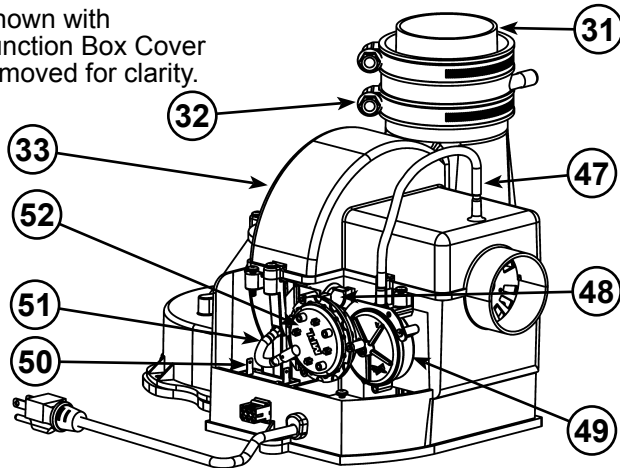

Figure 4
| 8 Cold-Water Inlet Nipple/Diptube | 25 *Gas Supply* | 47 Air Tubing (Intake) (see Figure 4) |
| 9 **Combo Heating System Supply Outlet (Optional) | 26 Anode (under cap) | 48 Blower High Limit Switch (see Figure 4) |
| 10 T&P Valve | 27 Baffle Assembly | 49 Intake Air Pressure Switch (NC) (inside box) (see Figure 4) |
| 11 * Discharge Pipe | 28 Hot-Water Outlet Nipple/Anode | 50 Capacitor (see Figure 4) |
| 12 **Combo Heating System Return Inlet (Optional) | 29 Sound Suppressor (Tee fitting) | 51 Air Tubing (Exhaust) (see Figure 4) |
| 13 Gas Control Valve/Thermostat (Honeywell) | 30 *Inlet Water Shut-off Valve | 52 Exhaust Air Pressure Switch (NO) (inside box) (see Figure 4) |
| 14 Gas Valve Electronic Control Module And Cover (Honeywell) | 31 ****Rubber Coupling (see Figure 4) | |
| 15 Drain Valve | 32 Gear Clamp (see Figure 4) | |
| 16 Outer Gas Door | 33 ***Blower with Power Cord (see Figure 4) | |
This device is located on the blower (see Figure 4, item 48) and limits the maximum temperature of the blower. If the blower temperature rises above the temperature setting, the switch opens causing the heater to shut down. The switch will auto reset once the temperature drops sufficiently.
The blower/heater is equipped with two air pressure switches located in the junction box (see Figure 4, item 49 and item 52). These devices are connected in series and monitor the air pressure produced by the blower. In the event that the exhaust venting becomes blocked or sufficiently restricted, the normally open (NO) air pressure switch will shut down the heater. In the event that the intake pipe becomes sufficiently blocked or restricted, the normally closed (NC) air pressure switch will shut down the heater.